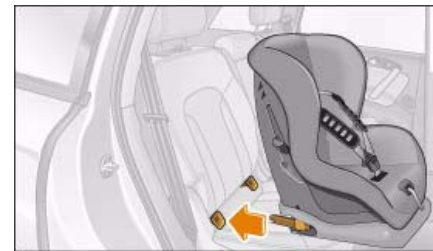

Fig. 231 The ISOFIX child safety seat is pushed into the protective sleeves.
- Fit the protective sleeves **(A)** onto the retainers **(B)** between the backrest and the seat cushion ⇒ *page 218*, fig. 231.
- Push the mountings on the child safety seat into the protective sleeves until they engage audibly (2x) ⇒ *page 218*, fig. 231.